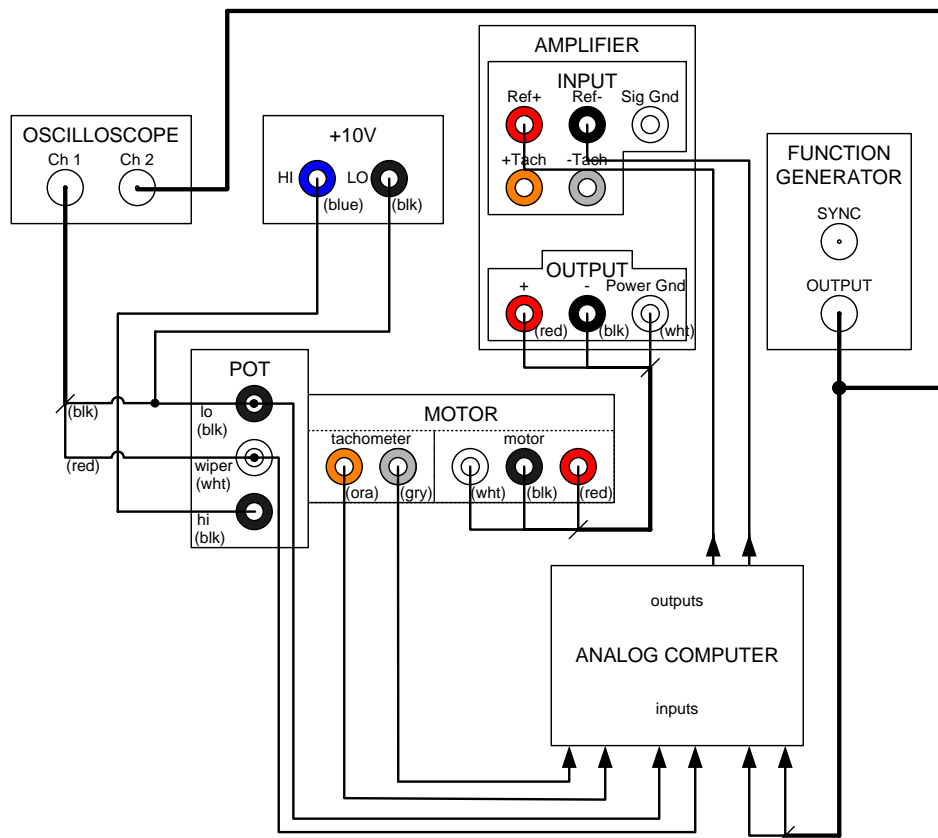

Figure 5.4. : Wiring diagram for Part I.
3. Use the wiring diagram (Figure 5.4) to connect the analog computer to the other components.